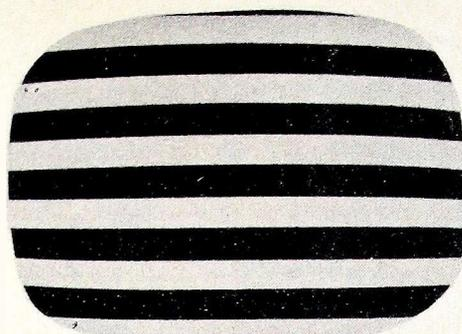
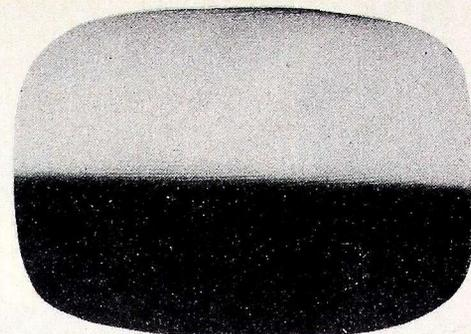

Fig. 1. Pattern produced by signal generator with 400-cycle modulation.
Fig. 2. Pattern produced by signal generator with 60-cycle modulation.
Coupling in the filament stage occurs through the small but still significant capacitance between the cathode and filament of a tube (see Fig. 1). For instance the twin triode, the 12AT7, has a filament-to-cathode capacitance (for each unit) of 2.5  $\mu\text{f}$ . This might be thought small, but at the frequencies used in a television receiver, it becomes important. At a frequency of 80 mc the reactance of this 2.5- $\mu\text{f}$  capacitance is equal to
Fig. 1.—(A) shows a simplified tube circuit showing the filament-to-cathode capacitance. (B) is the equivalent r-f circuit showing the low filament-to-cathode reactance used for coupling the filament and cathode circuits of a tube.
The vertical linearity and height controls can be checked and adjusted by setting the channel selector to some channel not used in your area. This should probably be one of the lower channels since most of the older signal generators do not cover the high tv channel frequencies. The r-f output cable of the signal generator should be connected to the antenna terminals of the receiver. The output of the signal generator must be modulated since it is the frequency of the modulation which is visible on the picture tube screen. Most signal generators have provision for 400-cycle modulation which produces a bar pattern similar to that shown in Fig. 1.
The output of some signal generators such as the General Electric YGS-3 can be modulated by a 60-cycle or 400-cycle fixed frequency, or by any frequency within the variable frequency range of 100 to 12,000 cycles. The 60-cycle modulation produces a pattern consisting of two horizontal bars as shown in Fig. 2. The positive half of the sine wave produces the bright bar, while the negative half produces the black bar. The 400-cycle modulation produces six bright bars and five dark bars as shown in Fig. 1. The number of black and white bars will vary depending on the frequency of the